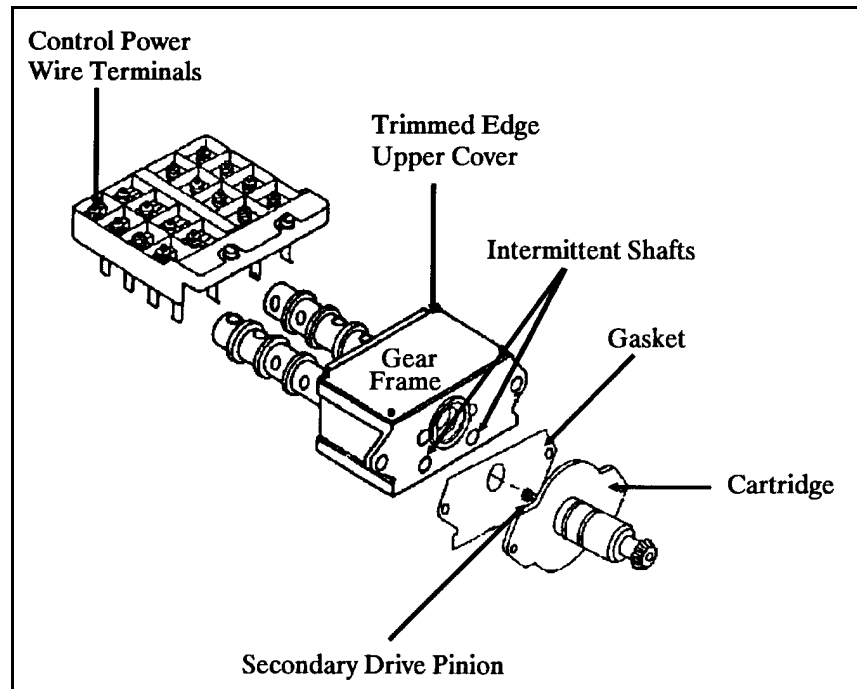

Figure 4-54 Two-Train Limit Switch and Cartridge Assembly
32. Installation of Limit Switch Cartridge into Actuator Refer to Figures 4-54, 4-55, 4-16.